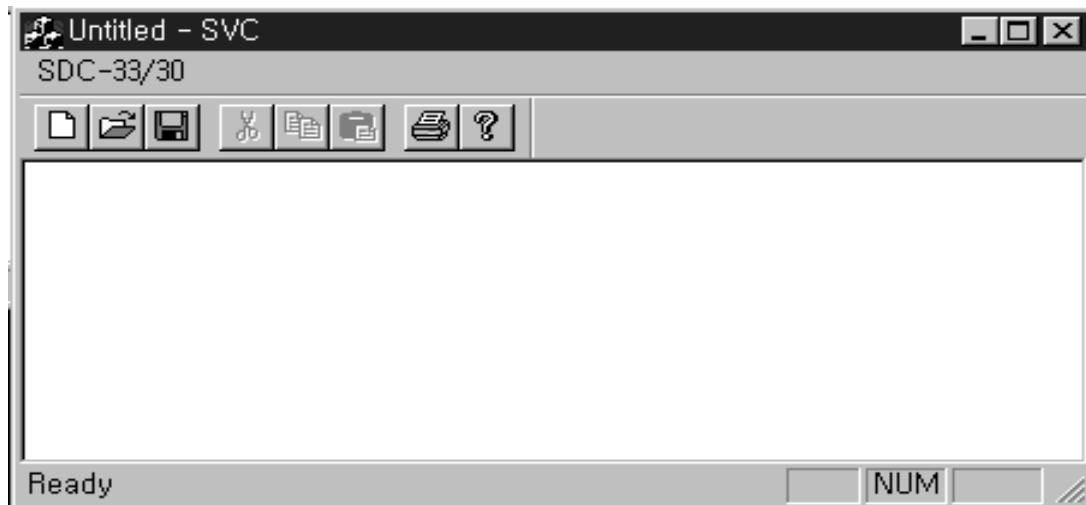
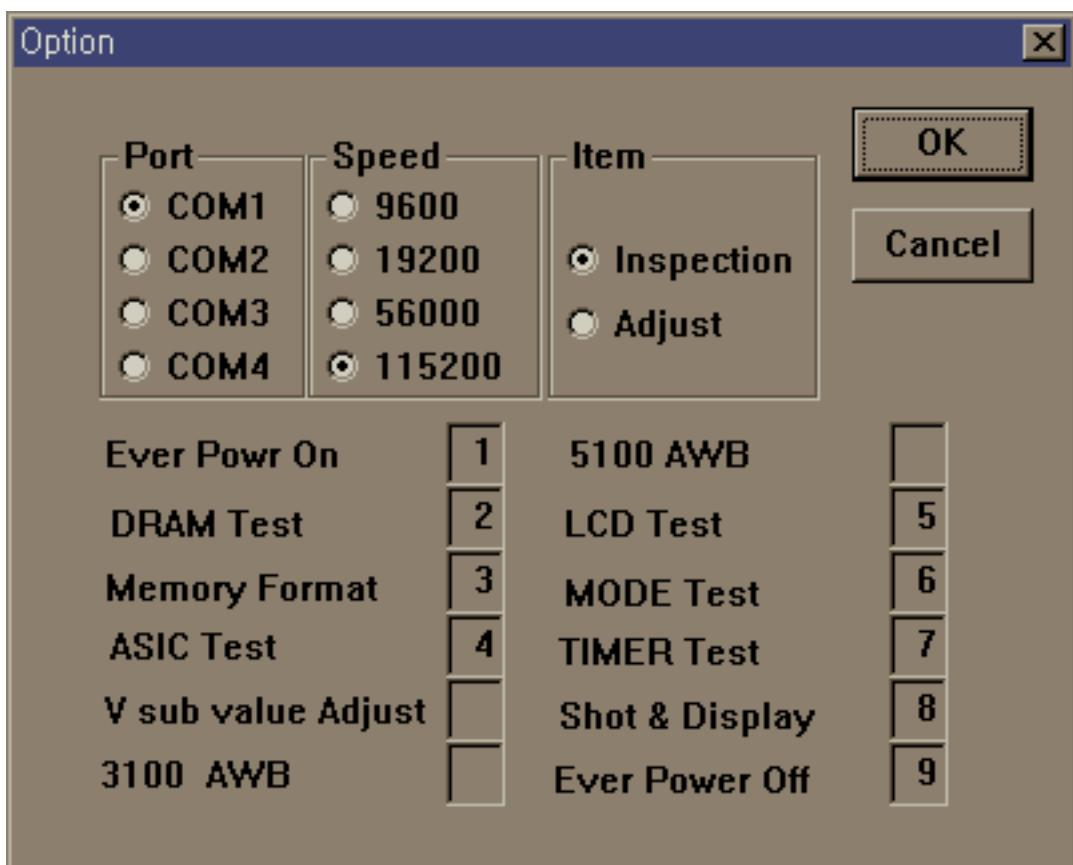

Fig. 5-3 Initial screen at execution of SVC.exe
Fig.5-6 Option Window
- 1) The window (Fig. 5-3) appears at execution of SVC.exe.
1) When selecting 'Option', Fig. 5-6 is displayed.
2) Follow this procedure when setting the options in Fig. 5-6.
- 1) SEE Fig. 5-6. Press O.K. The screen will appear as in Fig. 5-3.
4) Execute the program in accordance with the sequence of Fig. 5-6.